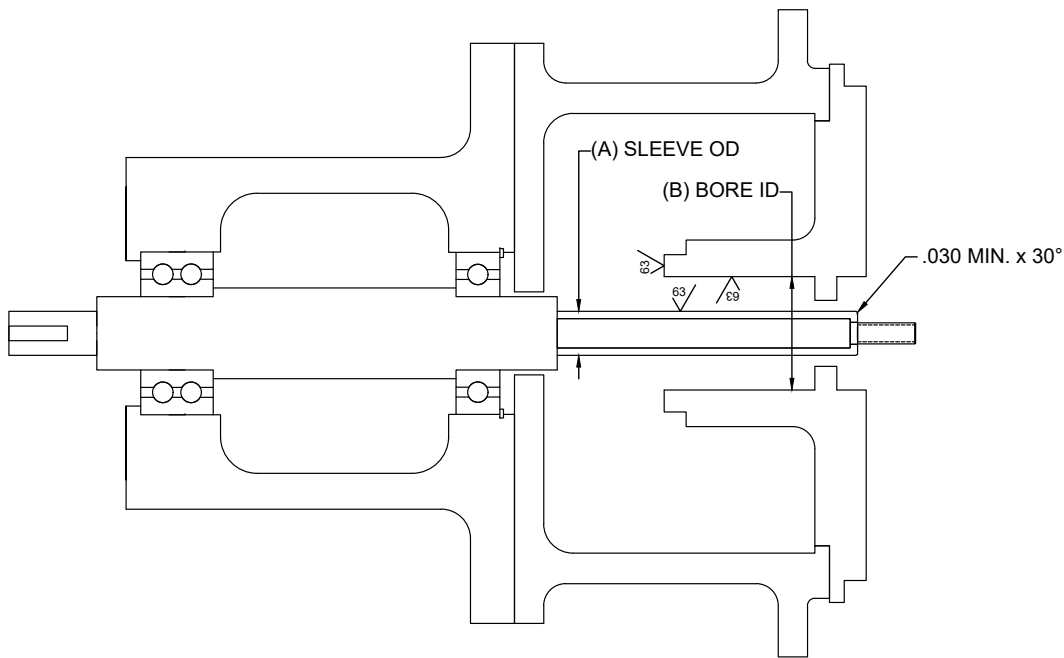

Figure 1: Surface finish and chamfer locations. Fully assembled pump without seal.
5. The maximum surface finish of sealing surfaces and the shaft or sleeve must be 63 Ra-µin as seen in Figure 1.
6. For ease of installation, the leading edge of the shaft or sleeve should be chamfered as shown in Figure 1 and all parts should be deburred.